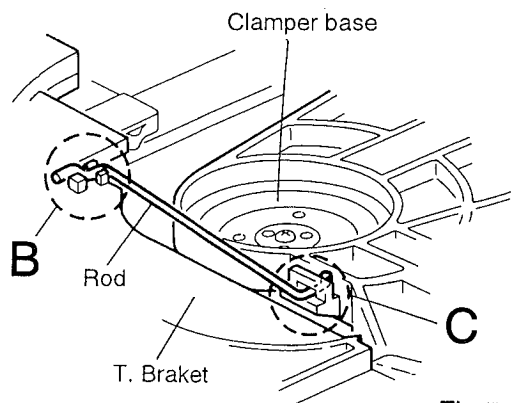

Fig.5-36
4. From the T. bracket section "B" and clamber base section "C", remove both of the edges fixing the rod (See Figs. 5-36 and 5-37).